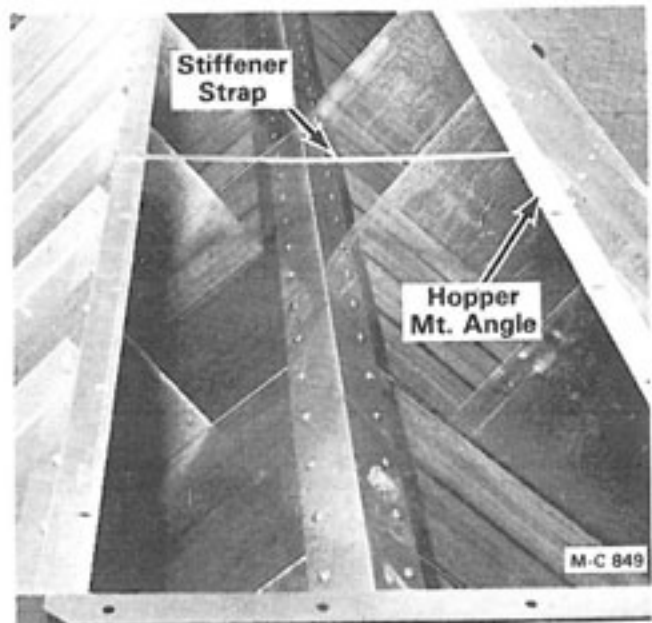

Figure 5
1. Place a stiffener strap (28" long) across the center of the hopper mount angles on the screens (two on 16' dryers), see Figure 5.